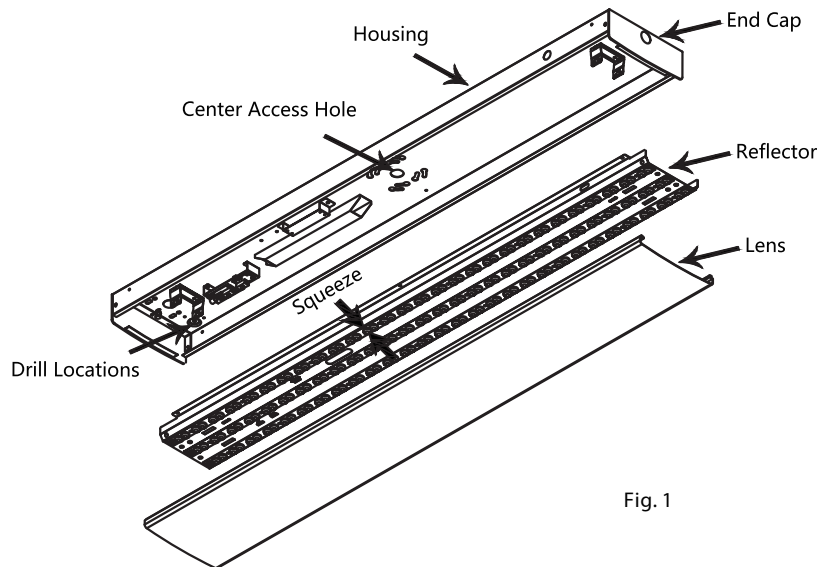

Fig. 1
3. Pull supply wires from Junction Box (not supplied) through Center Access Hole of Housing as shown in Fig. 1.